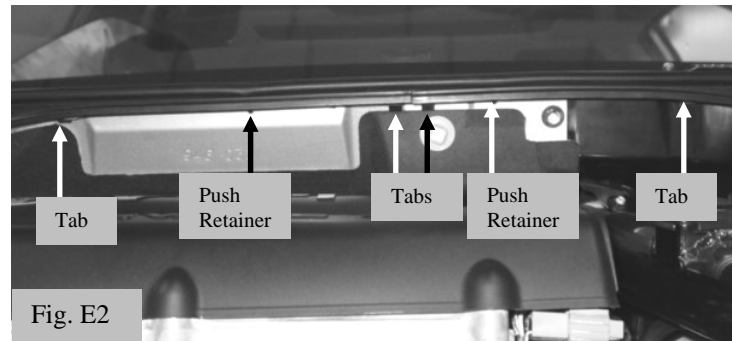

Fig. E2
iii. Be sure to re-engage all (4) tabs and (2) seal retainers under the cowl. (Fig. E2)